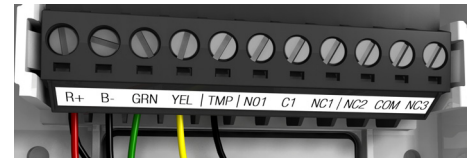

Figure 3: Digiplex Wiring
- Connect your 12 VDC power input (red and black) to their respective terminals. Connect the Digiplex EVO communication bus into the green and yellow terminals (see Figure 3).